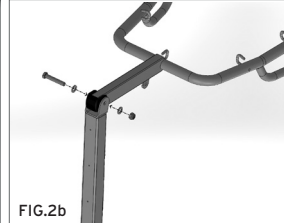

FIG.2b
4. Connect and Fix the joint between column and arm with the provided screws (Fig.2b)